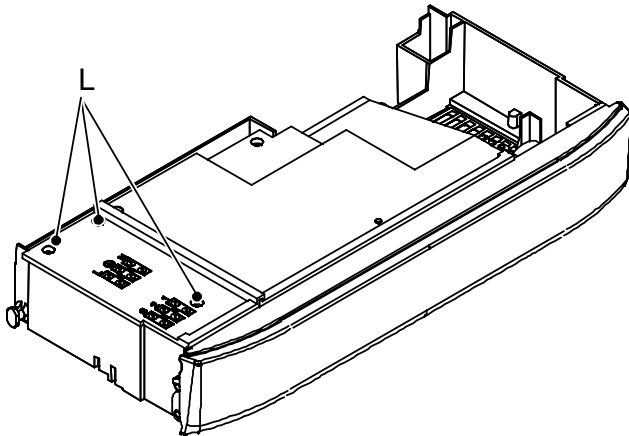

Fig. 6.14
- 5 Loosen the screws L and remove the service panel (Fig. 6.14).